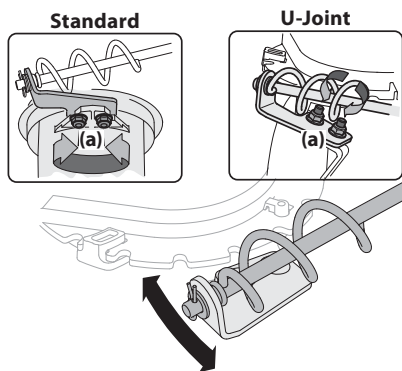

Figure 4-7
1. Loosen two nuts (a) which secure chute bracket and reposition it slightly. See Figure 4-7.